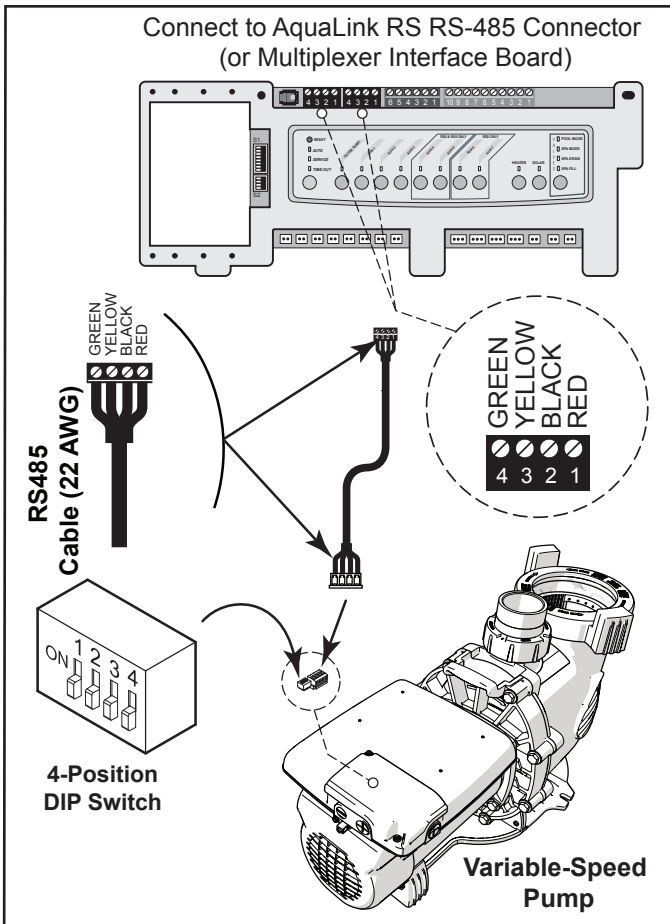

Figure 5. Wiring AquaLink RS, PDA or Z4
2. Dip switches 1 and 2 need to be in the OFF position. See “Figure 5. Wiring AquaLink RS, PDA or Z4”.
5. Connect the new RS-485 cable from the AquaLink through the available compression fitting and route the 4-conductor cable through the motor drive threaded port closest to the connector. See “Figure 5. Wiring AquaLink RS, PDA or Z4”
6. Connect the other end of the cable to an RS-485 connector on the AquaLink RS (or multiplexer interface board), matching wire colors with connector positions See “Figure 5. Wiring AquaLink RS, PDA or Z4”
As shown in Figures 5 and 6 the 4 position dip switch serves two (2) functions: it selects the pump address, and it determines what type of controller will be used with the pump.
The VS PlusHP is equipped with a terminal bar that provides user access to a built-in Auxiliary Load relay contact. This normally-open, dry contact is activated under certain operating conditions and is primarily intended to be used to control external devices that require system water flow for proper functioning, such as heaters, booster pumps, salt water chlorinators, etc. See Figures 5 and 6 for compartment's location details. An access cover with Phillips-head screw must be removed before proceeding.